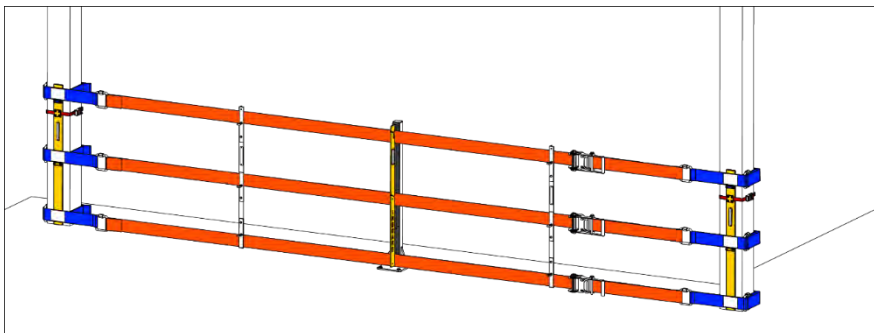

Figure 67
- iv) The Anti-Deflection Posts will stiffen the barrier, and together with the Guide Posts prevent deflection of the straps below the OSHA minimum height of 39" if a worker were to fall against the barrier. (Fig. 67)